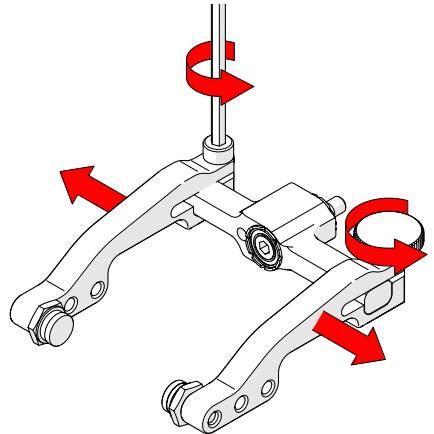

Fig. 104 - Remove arms
2. Loosen the probe holder arm adjustment knob and arm clamp screw. Slide the arms from the yoke (Fig. 104).